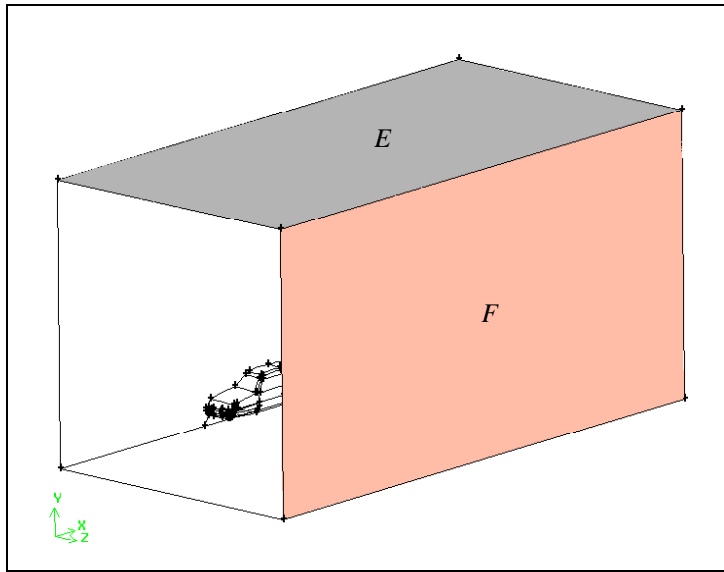

Figure 6-24: Two symmetry boundaries for the sedan geometry
- iii. Select (pick) the faces on the brick that are above and to the side of the sedan (faces *E* and *F* in Figure 6-24) and accept the selection.